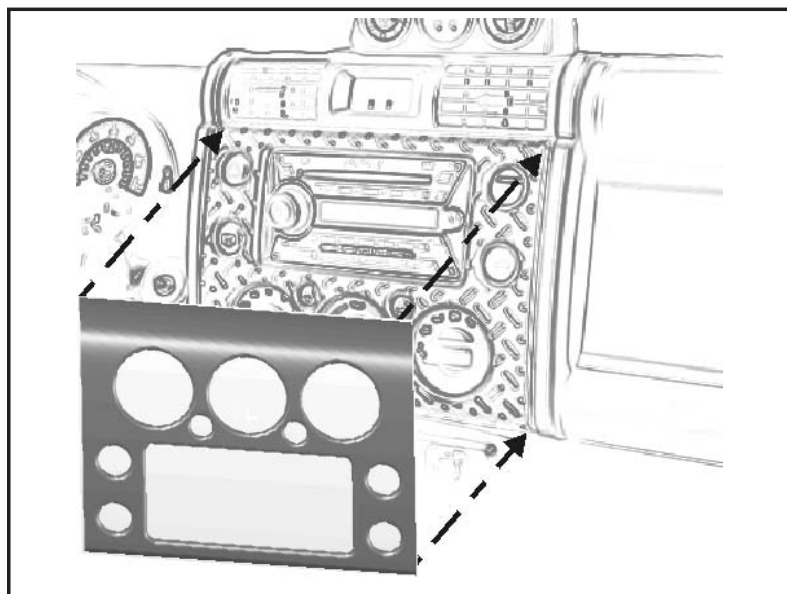

Fig. E1
-  A. Align part uniformly to edge of factory components. Edge of appliqué should be flush to edge of factory component,  $\pm 1.0\text{mm}$ . (Fig. E1).